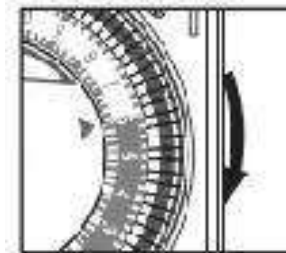

Fig 2
**Example: It is 6:00AM, please rotate the dial clockwise until the arrow aligns 6AM on the dial. (Fig 2)**